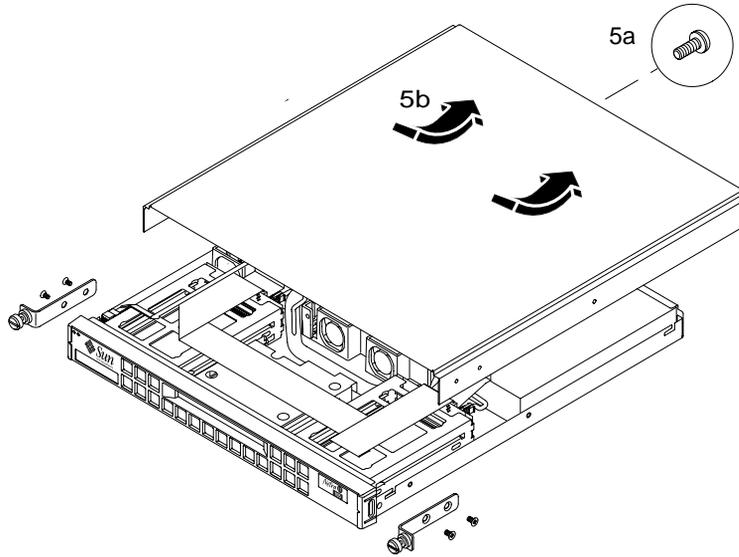

FIGURE 4-4 Removing the Top Cover
5. **Remove the system's top cover (see FIGURE 4-4).**